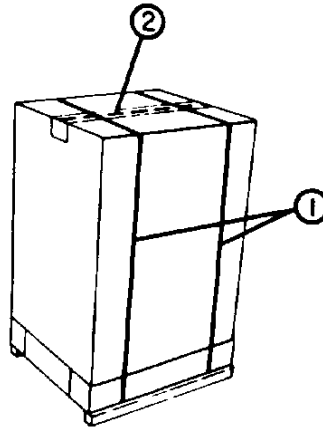

FIGURE A-5
1. Cut and remove the two shipping straps from the shipping pack, as shown in Figure A-5, and slide the shipping pack off of the wooden skid.
2. Cut the tape holding the flaps closed on top of the shipping sleeve and open flaps. See Figure A-5.